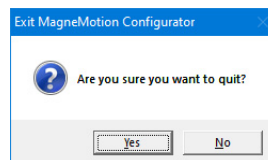

Figure 2-13: Exit MagneMotion Configurator Confirmation Message
*The **Exit MagneMotion Configurator** confirmation message, see Figure 2-13, is displayed.*
The *Exit MagneMotion Configurator* confirmation message is displayed, see Figure 2-13.